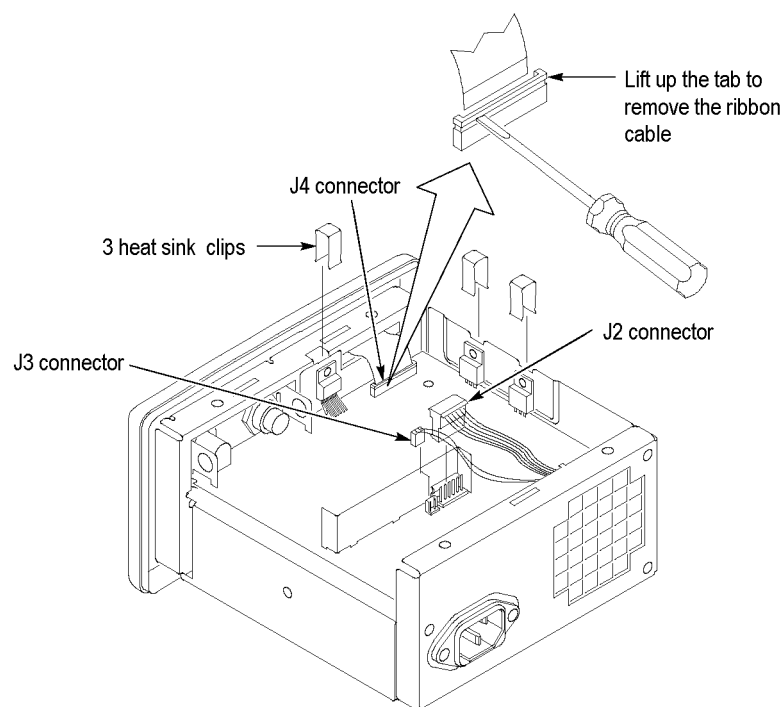

Figure 24: Removing the three heat sink clips
7. Disconnect the front-panel ribbon connector from J4 on the amplifier board. Be sure to carefully release the tab on the connector before removing the ribbon cable from the connector. Only lift the ends of the tab to release it from the connector. (See Figure 24.)